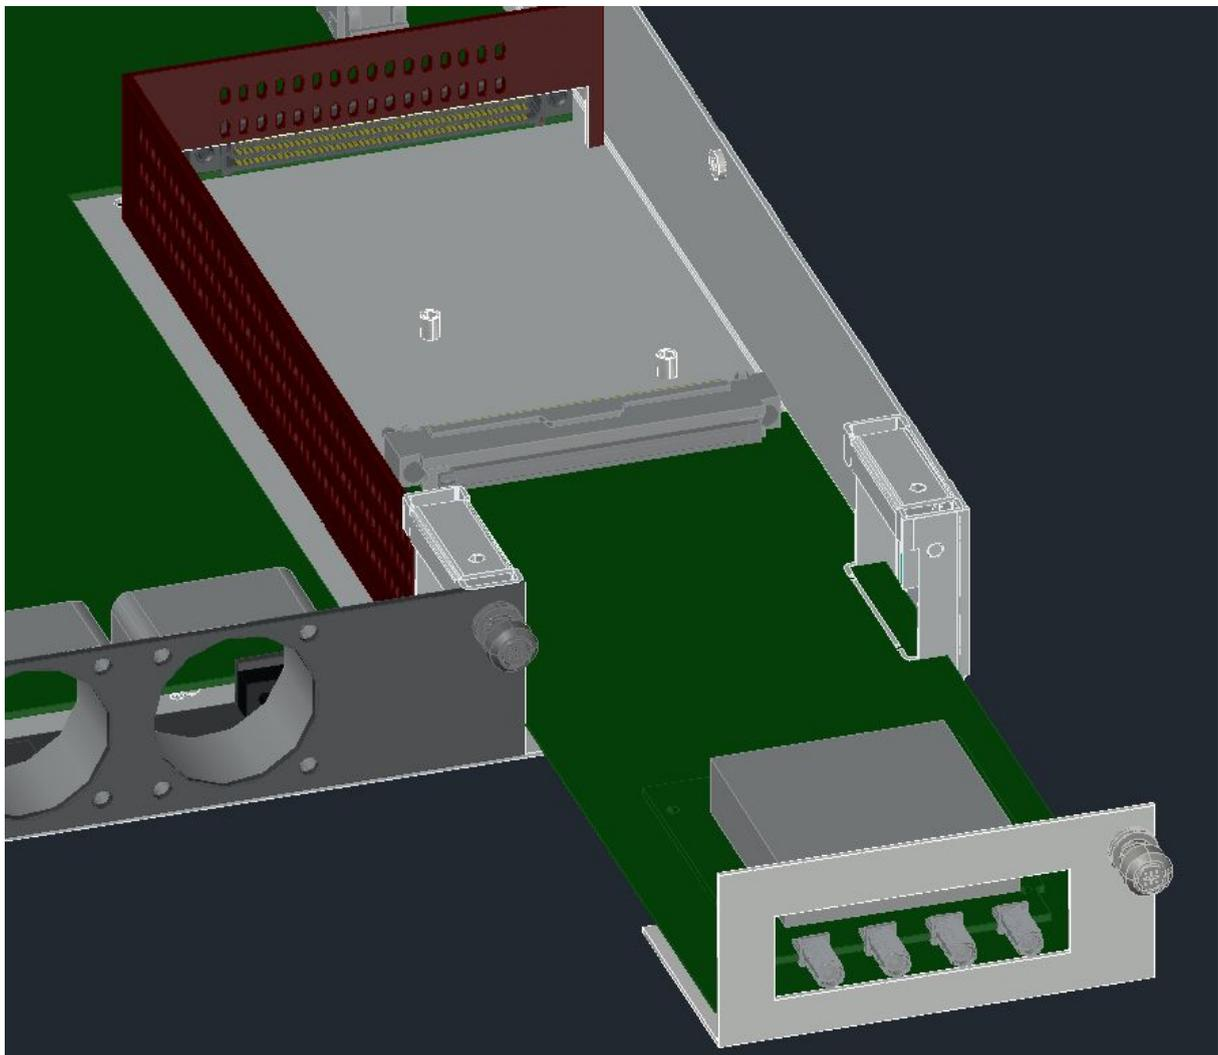

Figure 3: custom pluggable FMC carrier expansion board.
- 1) No need to open the equipment. This carrier expansion board with a non-FMC connector could be slid into the equipment, with the help of mechanical guides, from a rear panel cutout like in the Figure 3. Therefore, without opening the chassis, we can save the warranty and more importantly, protecting the WRS-4 from any fault derived from the access to the inside.